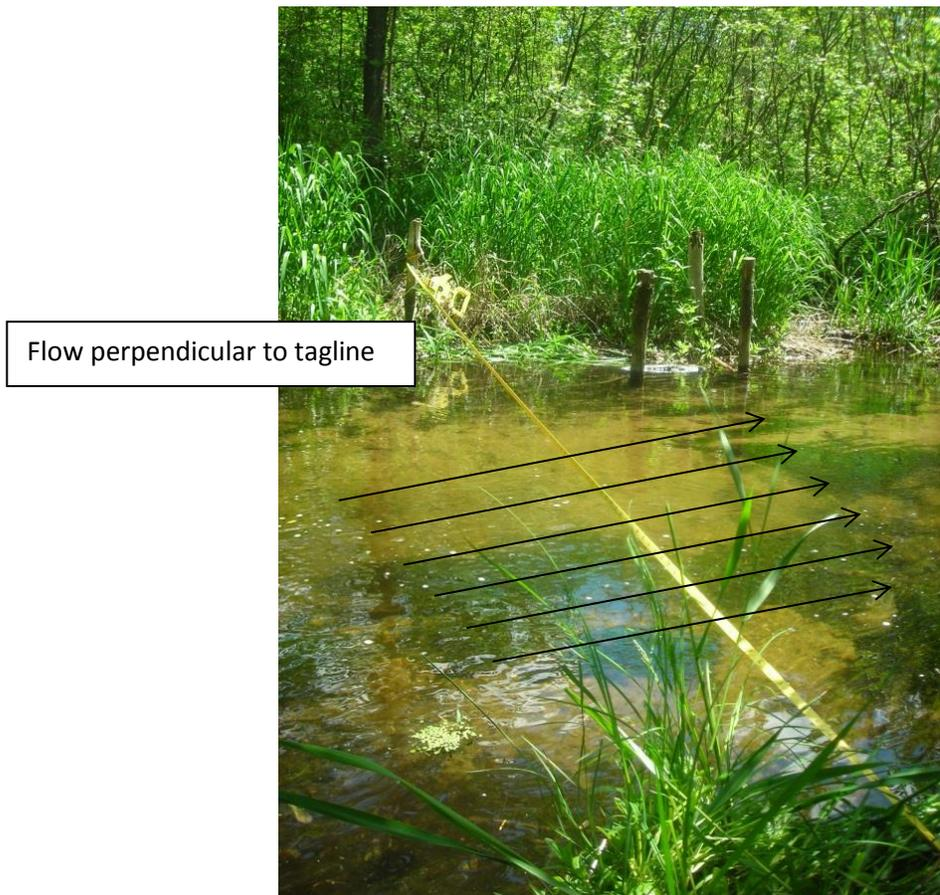

Figure 5. An example of a tagline above a stream cross section.
a. After you select the best location for a cross section in your stream set up the tagline directly above the cross section by stretching the tape measure across the stream (Figure 5). The tagline should be: